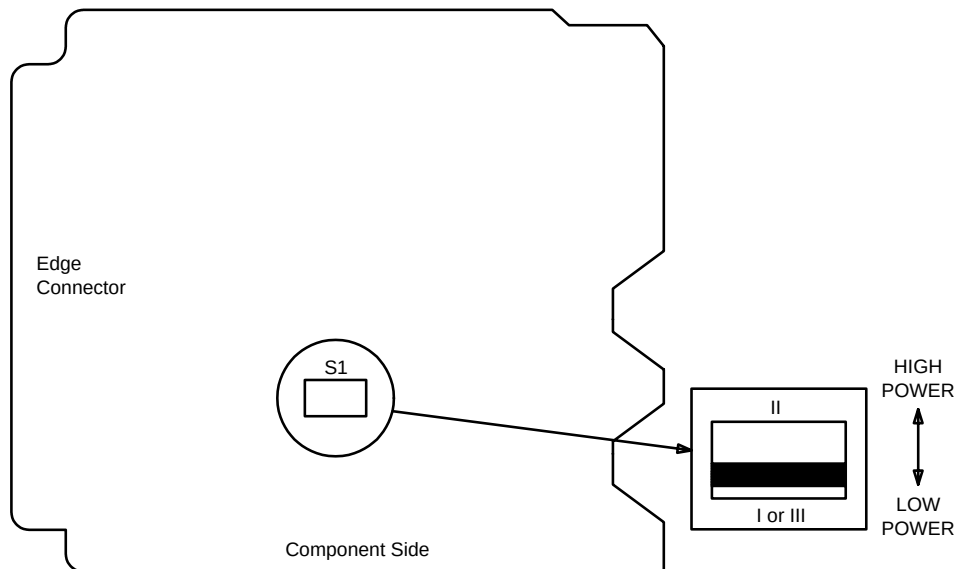

Figure 1. 21G/21G-U OLIU Option Settings
2. Refer to Figure 1 and set the option switch on the **21G/21G-U OLIU** to the **LOW POWER** position, if not already performed. Continue with Step 4.